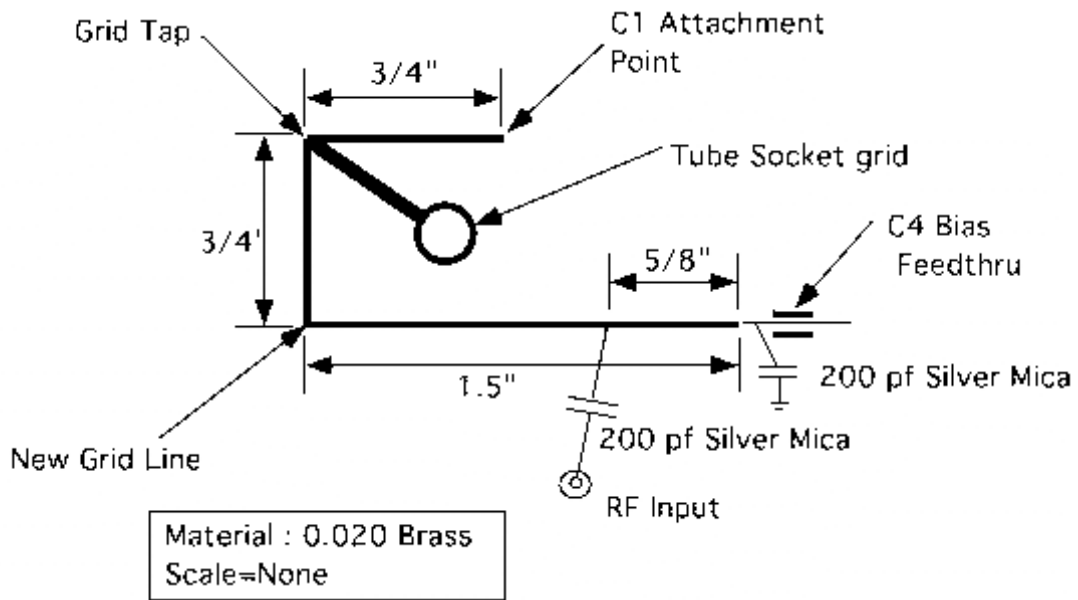

Figure 1. New Grid Line - Top View
9. Cut out the new grid line and bend to shape according to Figure 1 and Figure 2. Nothing is really critical here so don't spend a lot of time agonizing over the dimensions. Things can be fitted and trimmed as necessary when installing.